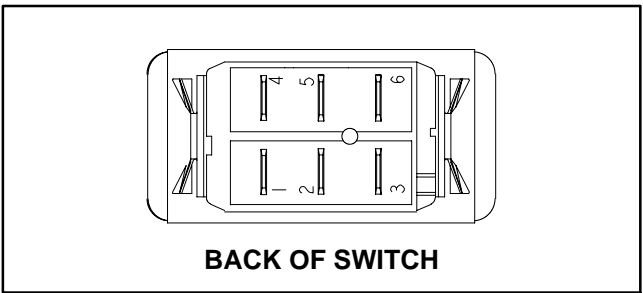

Figure 9
5. The switch terminals are marked as shown in Figure 9. The circuit logic of the sonic mode switch is shown in the chart to the right. With the use of a multimeter (ohms setting), the switch functions may be tested to determine whether continuity exists between the various terminals for each switch position. Verify continuity between switch terminals. Replace switch if testing identifies a faulty switch.